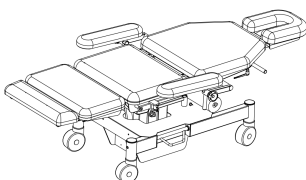

Figure 10
- Press button Line 5 on the handset to one-click lay flat(Figure 10).